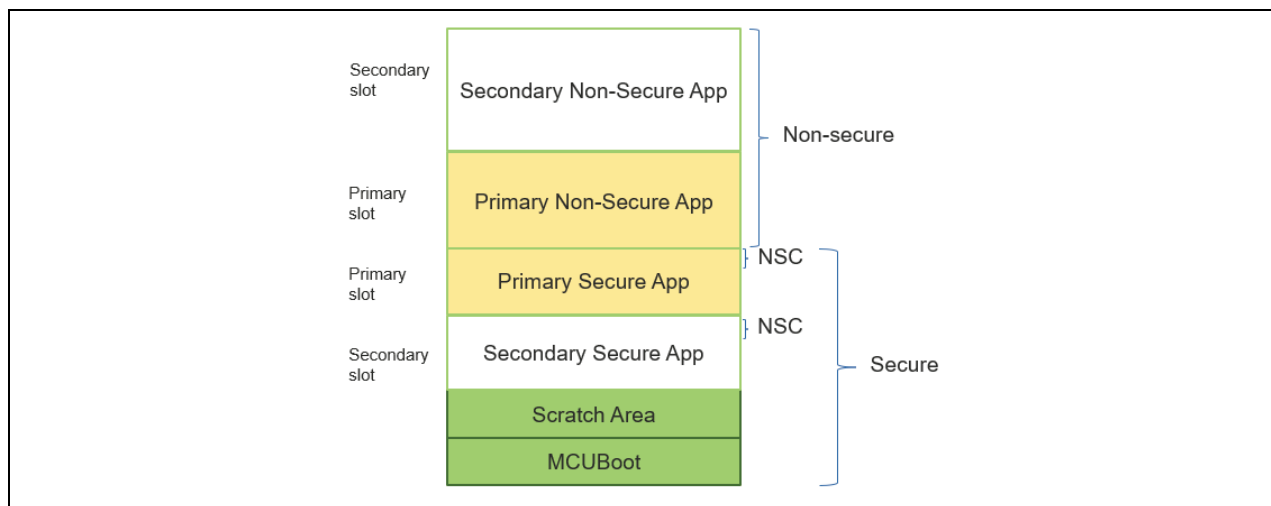

Figure 2. Two-Image MCUboot Module Memory Map (TrustZone)
For single-image projects, refer to Figure 1 from section 1.2.1 to see the default memory map layout. For applications with two separately updateable images, such as TrustZone® applications where the Secure and Non-Secure images can be updated separately, the default memory map layout is shown in Figure 2.
- Develop the bootloader and analyze the MCU memory resource allocation needed for the bootloader and the application. The bootloader memory usage is influenced by the application image update mode, signature type, and whether to validate the Primary Image. The bootloader maintains a memory map of all the different images shown in Figure 1 and Figure 2.